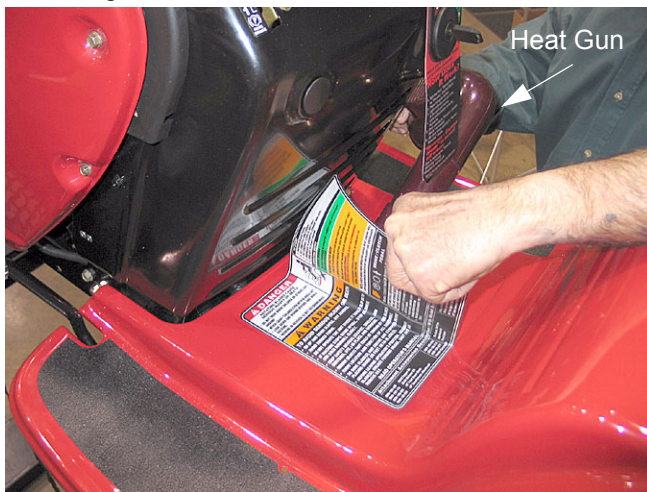

Figure 23
- 6.8. Using a heat gun, carefully heat the warning label and peel it from the fender panel. Set it aside to be re-installed during assembly. See Figure 23.